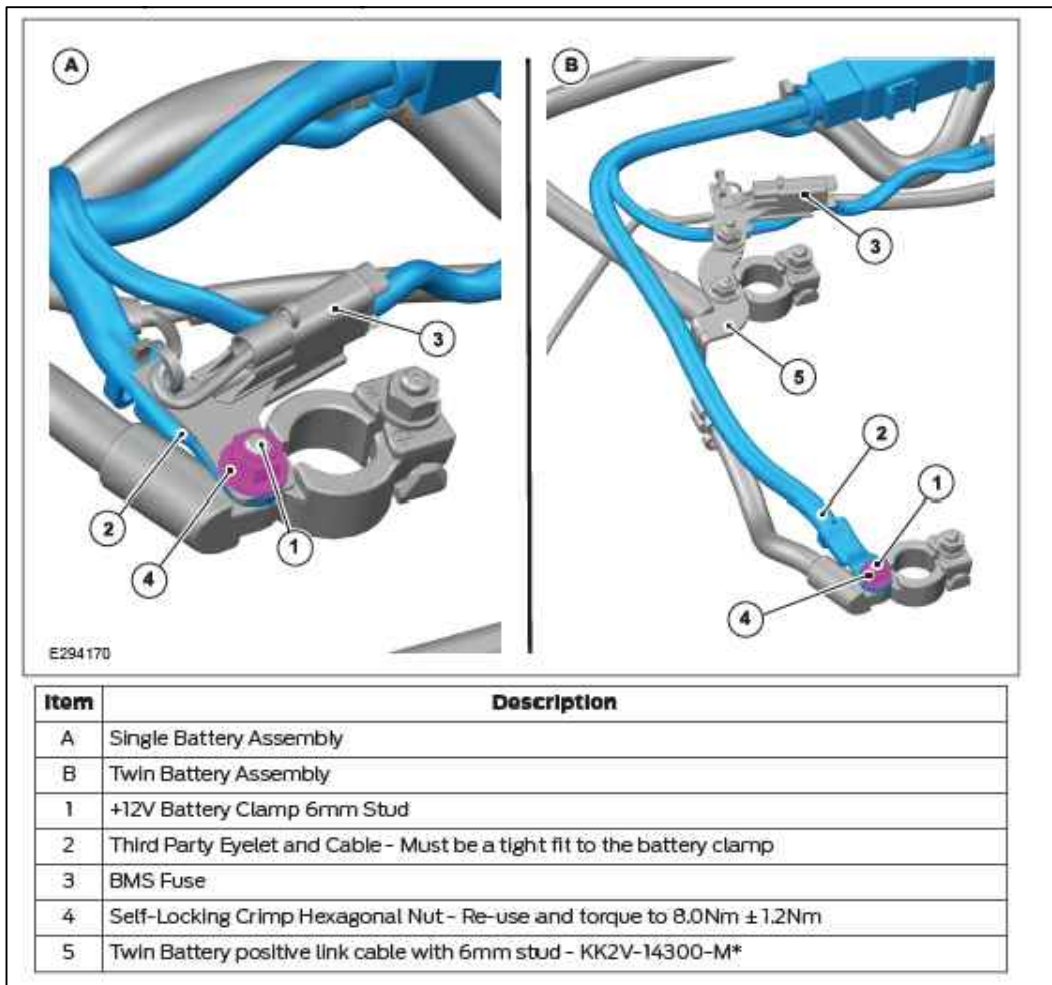

Figure 20: Battery diagram from 2020 Ford Transit Body and Equipment Mounting Manual (BEMM).
16. **Connect** the positive(+) lead to the M6 stud on the positive battery clamp. Reuse the M6 lock nut, when possible (Figure 20).